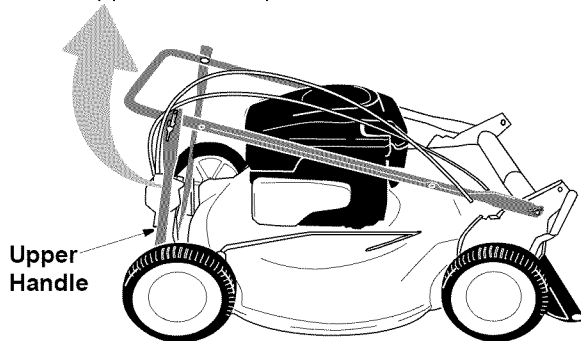

Figure 2
- Lift the upper handle and align it with the lower handle. See Figure 2.